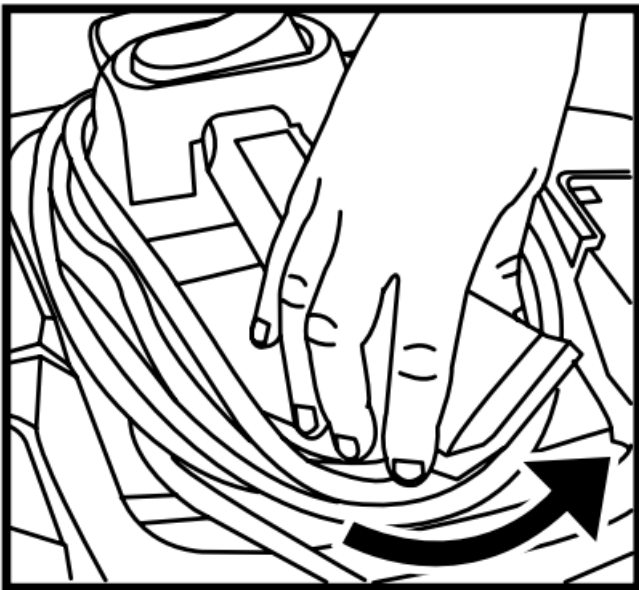

FIGURE 32
54. To remove the cord from the cord wraps grasp the sides of the rear cord wrap located behind the handle, turn counter clockwise 180° until the tip of the cord wrap is above the handle. **FIGURE 32.**